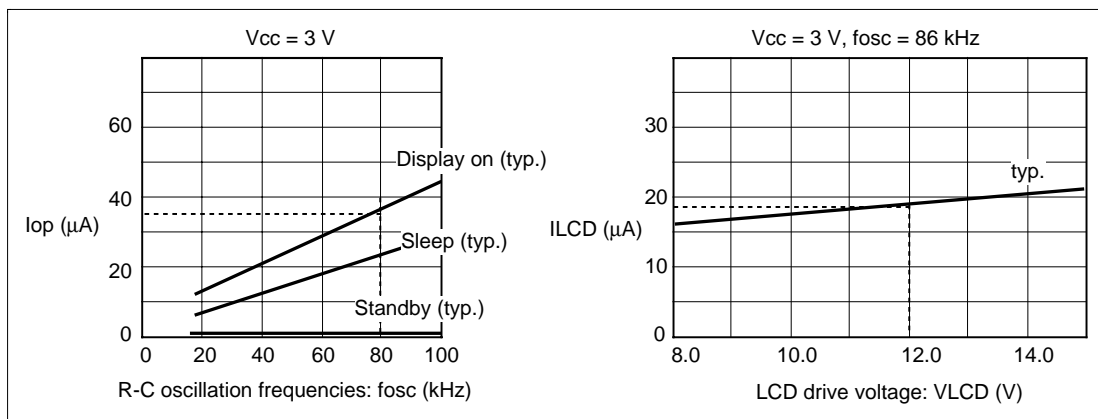

Figure 42 Relationship between the Operation Frequency and Current Consumption
8. The following shows the relationship between the operation frequency (f_{osc}) and current consumption (I_{cc}) (figure 42).